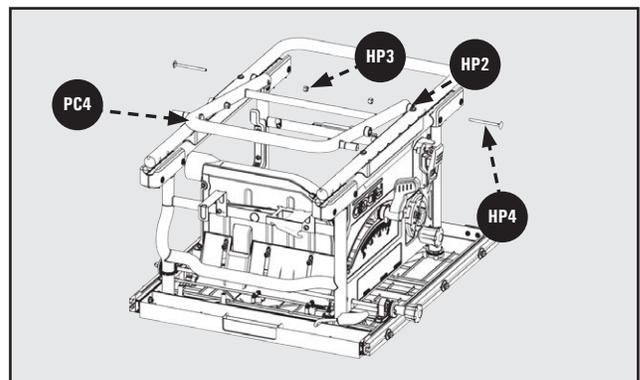

Figure 5
4. Secure Upper Stand Assembly (PC4) to Upper Stand Support (pre-attached to Saw) with M8 x 75mm Carriage Screw (HP4), Plastic Spacer (HP2), and M8 Locknut (HP3). See Figure 5.